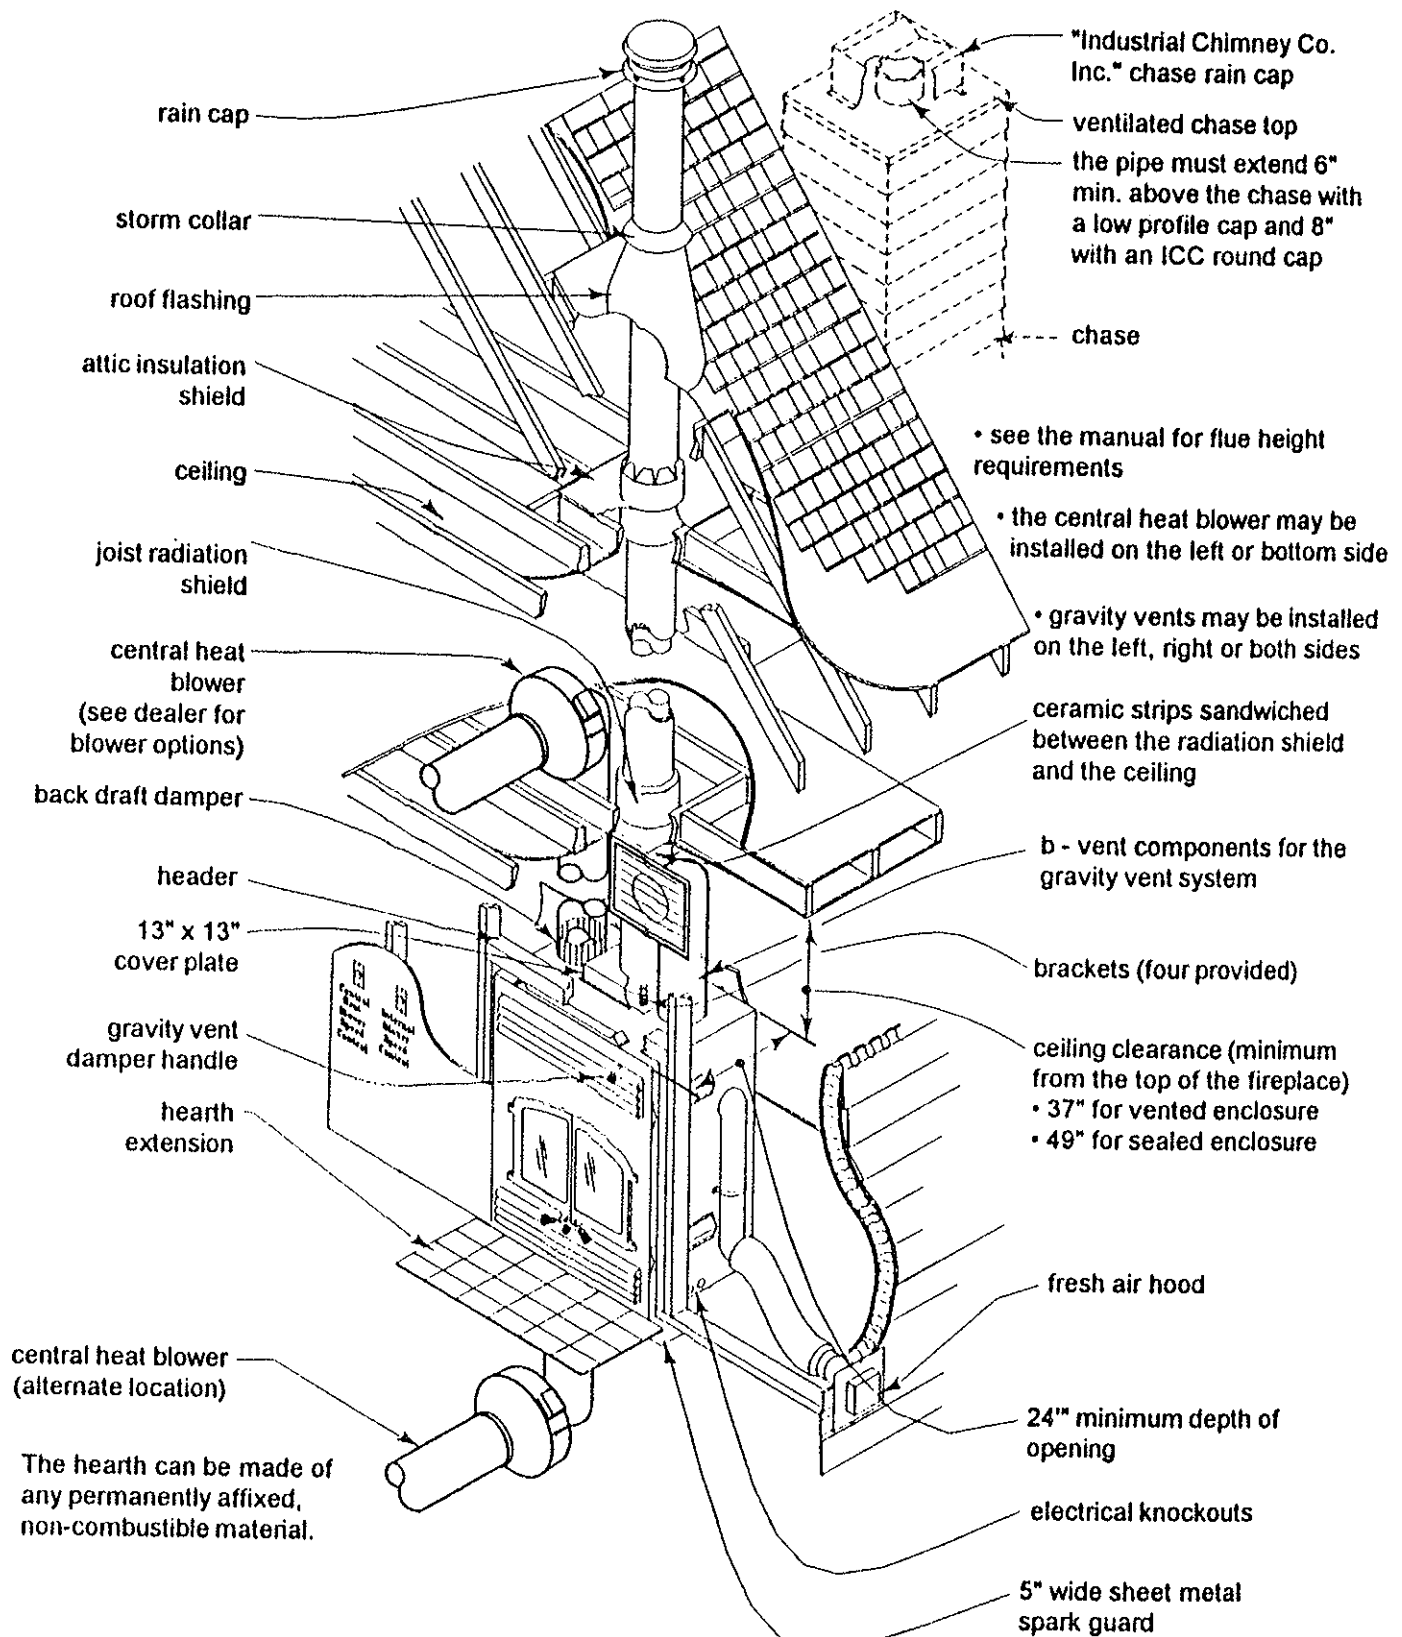

Figure 3: General assembly
grilles may be placed vertically or horizontally. Under no circumstances is the distance between the ceiling and the top of the unit to be less than 37 inches (See Figure 3).
1. Find a convenient location for the combustion air duct and register. The location of the register may be above or below floor level (see Figure 3). Under no circumstances should the combustion air inlet be placed in the attic.